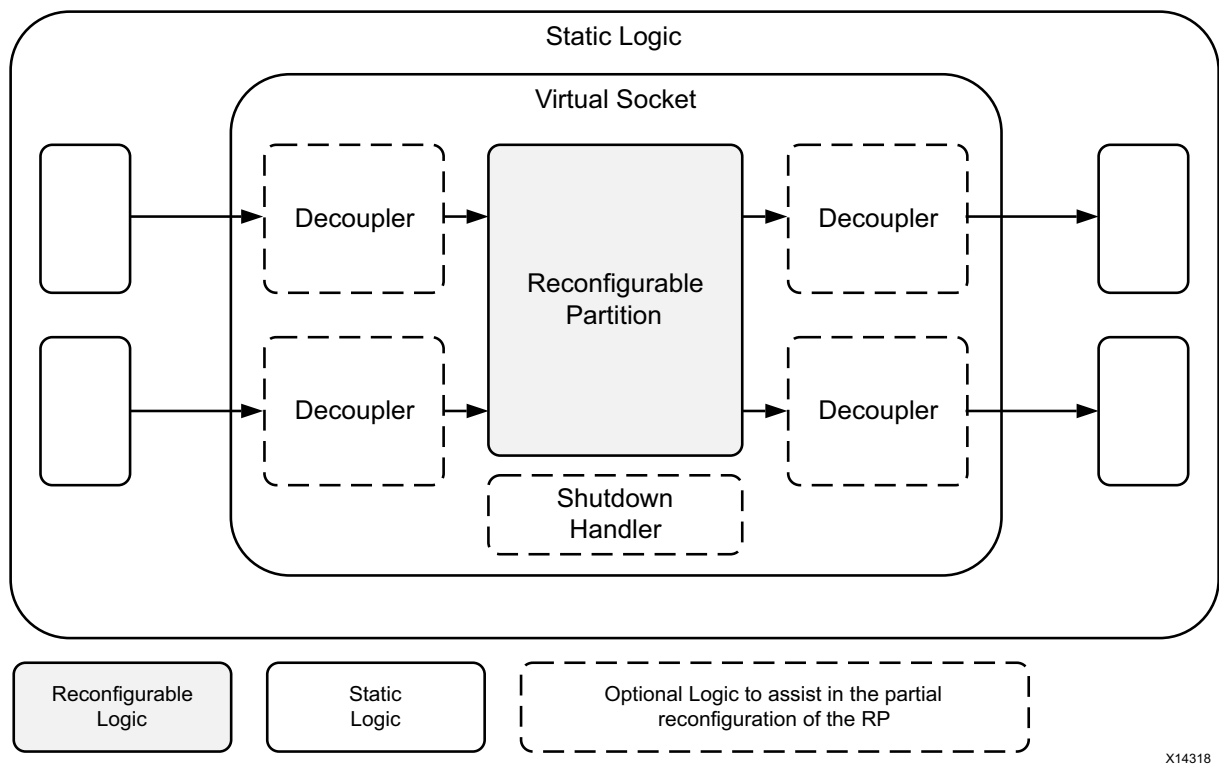

Figure 1-1: Virtual Socket
The Partial Reconfiguration Controller consists of one or more Virtual Socket Managers which connect to a single fetch path. A Virtual Socket (Figure 1-1) is a term that refers to a Reconfigurable Partition (RP) plus any logic that exists in the static logic to assist the RP with partial reconfiguration. For example, this logic could be used to isolate the static design from the Reconfigurable Partition while reconfiguration occurs, or to ensure Reconfigurable Modules are in a safe state before they are removed from the device. Some designs might not require this, in which case a Virtual Socket is equivalent to a Reconfigurable Partition.